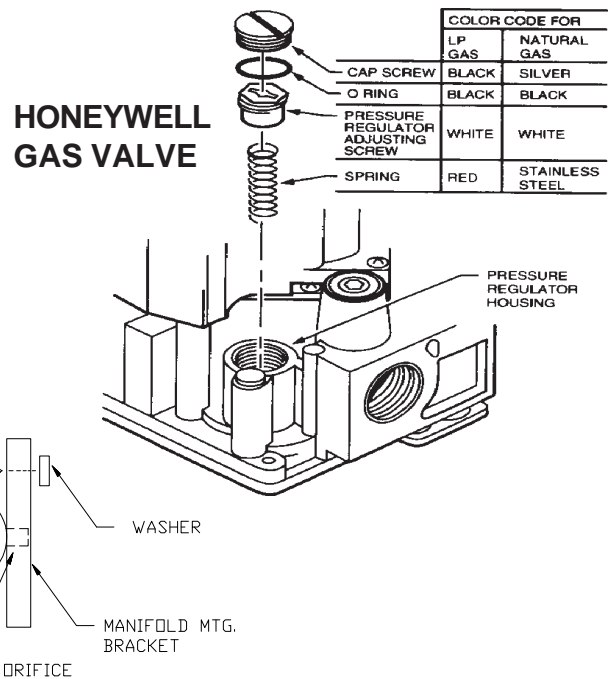

FIGURE 4
- 10b. GMPN ONLY: REMOVE BURNER AIR SHUTTERS AND DISCARD. INSTALL NEOPRENE WASHERS BETWEEN MANIFOLD BRACKET AND BURNER BOX SIDE OF THE MANIFOLD, USING THE SUPPLIED SCREWS. See Figure 4.